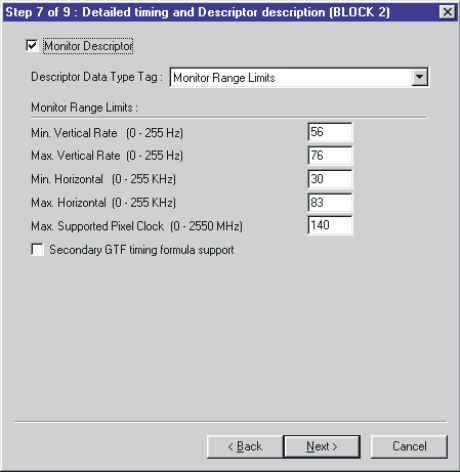

Fig.24
6. Click Next , bring up Fig. 24